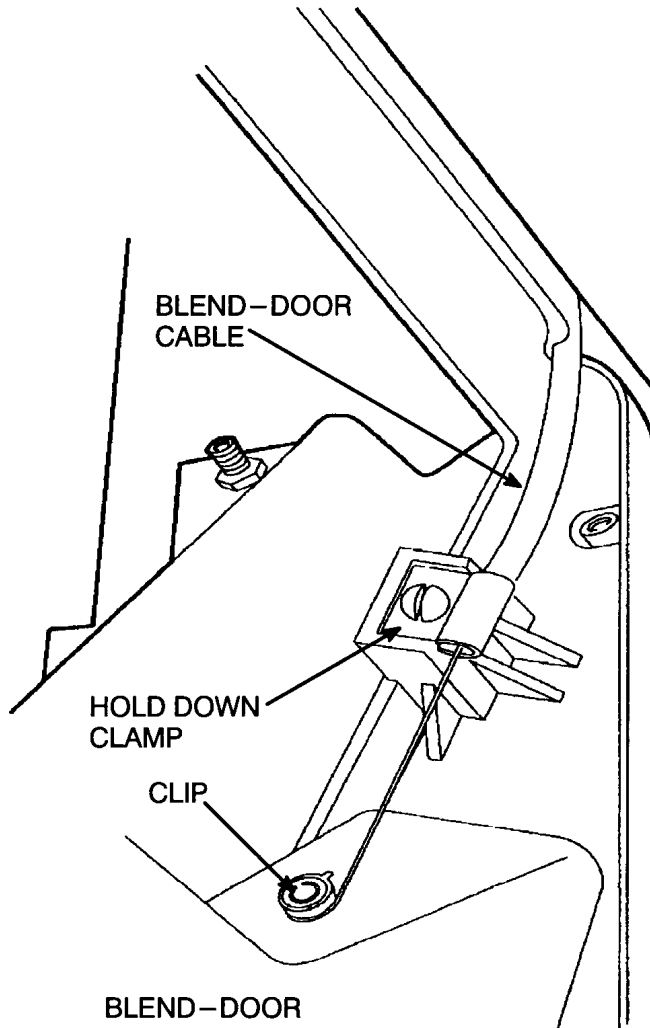

Figure 30 Connection of HOT-COLD Cable to Cab Blend-Door Assembly
4. Remove the clip that secures the HOT-COLD cable in position on the cab Blend-Air door (Figure 30).
5. Remove the hold down clamp for the HOT-COLD cable and remove the cable from the blend-door (Figure 30).
4. Connect the HOT-COLD cable to the blend-door and secure in place with the clip (Figure 30).
5. Install the clamp to secure the HOT-COLD cable in place (Figure 30).